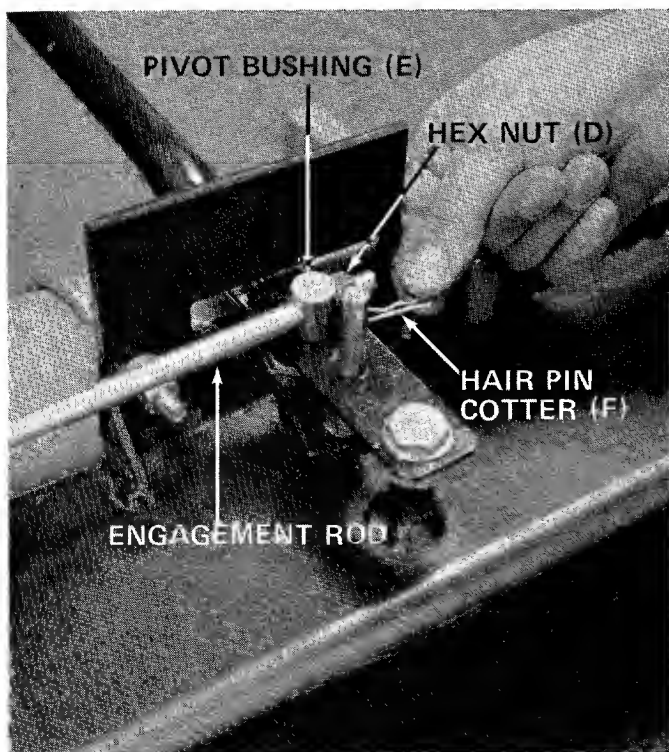

FIGURE 8
9. Thread pivot bushing (E) on end of engagement rod so there is approximately 1/2" of thread showing. Engagement handle must be at 90° to beam. Insert pivot bushing (E) into engagement handle. See figure 8.